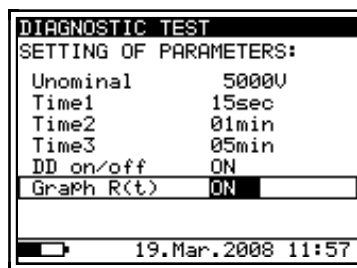

Fig. 20. Set-up menu in Diagnostic Test measurement
- Press the SELECT key, Set-up menu appears on display, see the Fig. 20.